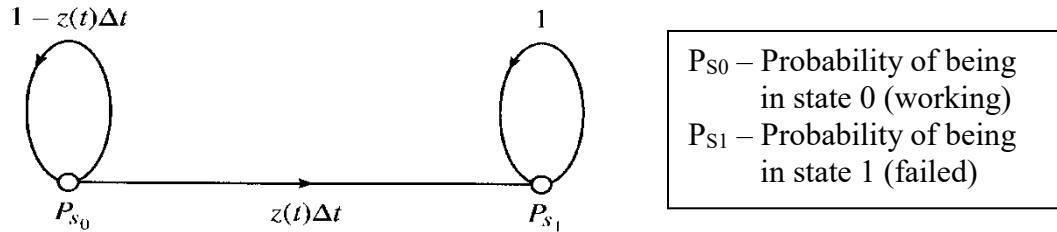

Figure B14 Markov graph for a single nonrepairable element.
With constant failure rates $z(t) = \lambda$, using this simplified algorithm by setting the unity (1) gain terms of the self-loops to zero and dropping the Δt 's by setting $\Delta t \rightarrow 0$ results in a simplified Figure B14: